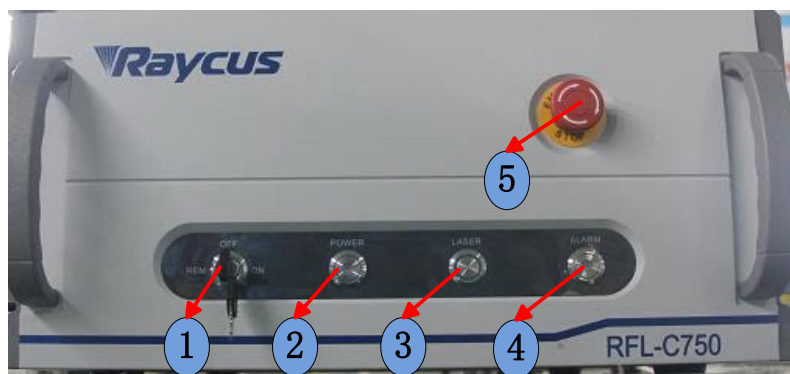

Figure 8 Front Panel View of RFL-C100~RFL-C1000
Figure 8 shows the front panel of RFL-C100~RFL-C1000 (take RFL-C750 for example, other models in the series have the same front panel):
1. REM/OFF/ON: Key switch, the power switch of the laser. Insert the key (**Item 6** in Figure 8(9)); either turn the key clockwise to the 'ON' position or counterclockwise to 'REM' position will power on the laser. Then the laser will enter a control mode depending on your previous setup on the 'CTRL-INTERFACE'. You can refer to 4.6 Control Mode for more details.